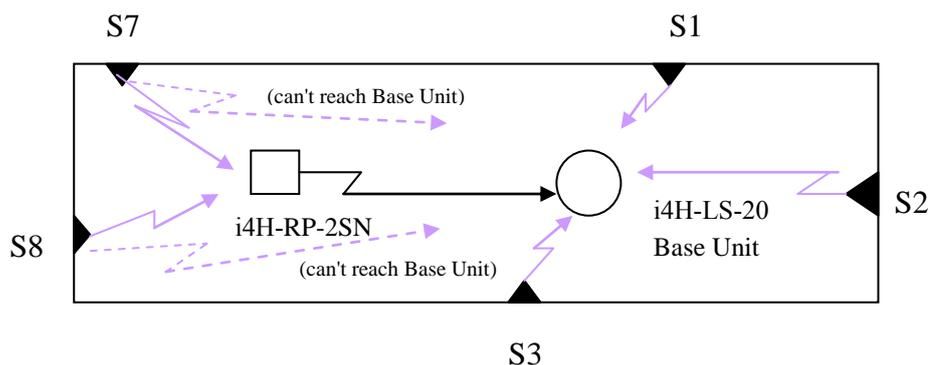

Fig. 2
- 1) To optimize the system's performance, the sensors of which RF signals can reach the Base Unit directly (ex. S1, S2, S3 in Fig. 2) are no need to be enrolled in the repeater.
- 2) For all sensors/transmitters that are enrolled in the repeater (ex. S7, S8 in Fig. 2), they have to be enrolled in the Base Unit too. Please refer to LS-xx manual respectively.
Fig. 2 explains how to place the repeater in a proper location. Assume all sensors' radio signal can reach the Base Unit except S7 and S8, then you should put the repeater at somewhere between S7 & S8 and the Base Unit but a little closer to S7 & S8.